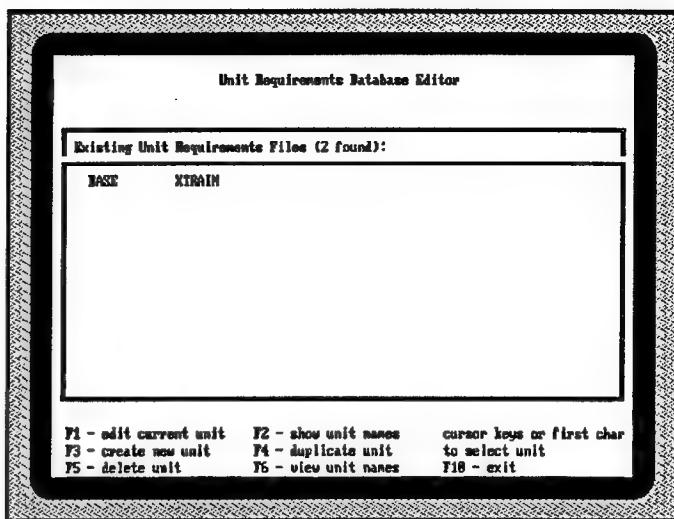

Figure 12.
**Operation:** This program displays the unit requirements files available for use in cost estimation. (Figure 12.)2 The following functions are available: